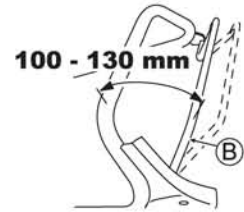

Fig. 24
Adjust so that the machine runs (the drive clutch gets engaged) when the distance between Drive clutch lever (B) and the handle is 100 - 130 mm as shown in Fig. 24.